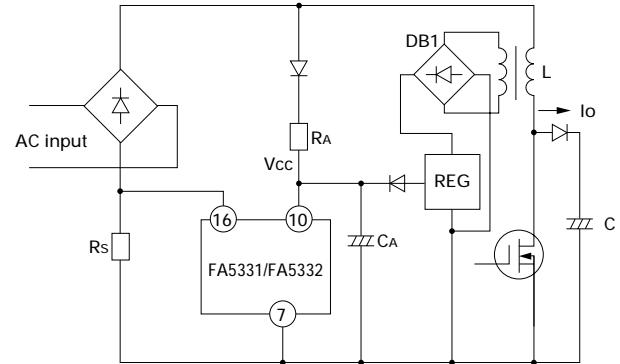

Fig. 9 Start circuit
Figure 9 shows a sample start circuit. Since the IC current while the Vcc pin voltage rises from 0V to V_{THON} is as small as 90µA (typ.), the power loss in resistor R_A is small. If an additional winding is prepared in the voltage step-up inductor (L), power to the control circuit can be supplied from this circuit. However, the voltage must be stabilized by a regulator circuit (REG) to prevent an excess rise of the IC supply voltage (V_{CC}). Use fast or ultra-fast rectifier diodes for the rectifier circuit (DB1) of the winding for high-frequency operation.
Figure 9 shows the basic circuit of a voltage step-up type converter which is used as a power factor correction.